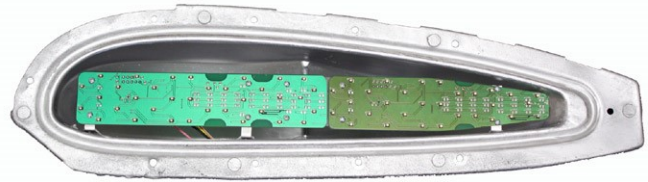
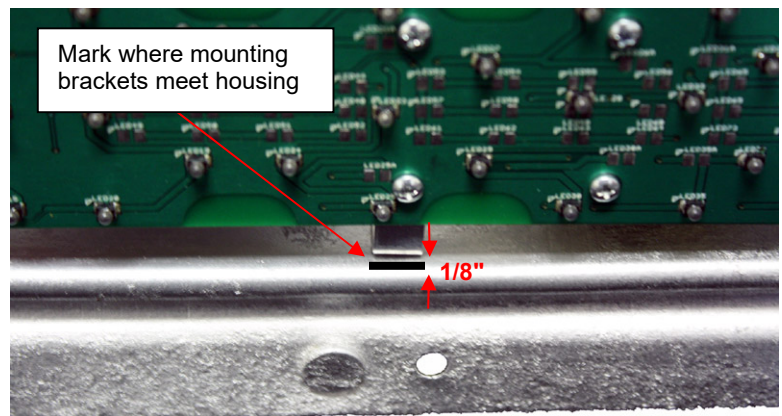

Figure 1
Figure 2
- 2.1. Place the appropriate LED panel assembly into the back housing. (See Figure 1) While positioning the LED panels within the each housing, the LED panels approximately 1/8" back into the housing as allowable and the aluminum mounting tabs flush against the lower housing surface, mark a line on the back housing just in front of each mounting bracket to indicate their position. (See Figure 2) Then remove the LED panel assembly.